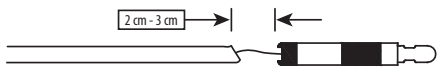

Figure 7
3. Gently separate the proximal and distal ends of the open pusher. Then, under fluoroscopy, pull the proximal portion of the implant delivery pusher approximately 2–3 cm to confirm implant detachment per IFU (Figure 7).